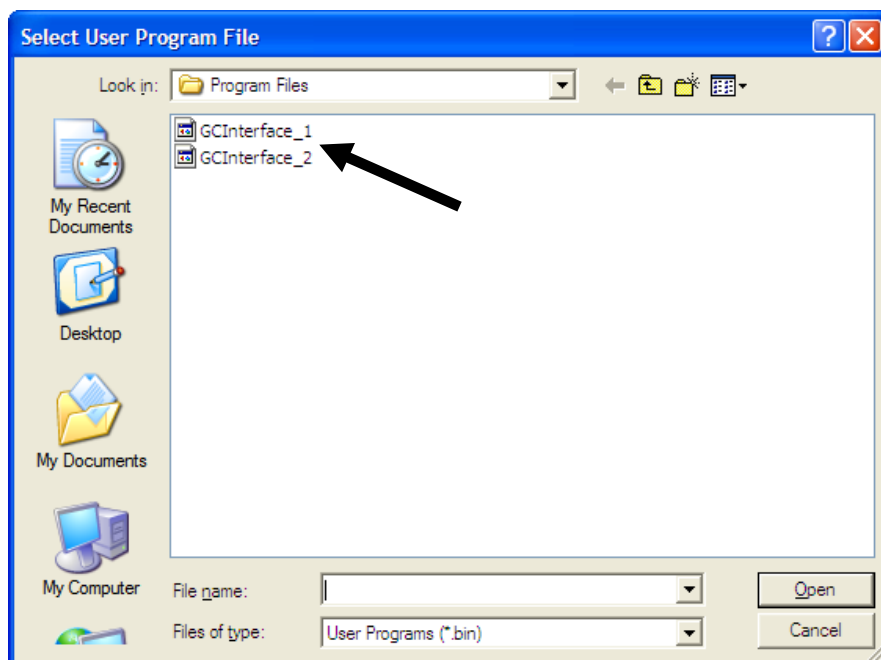

Figure 2-4. Select User Program File
4. Click **Browse** in the Download User Program File frame. The Select User Program File screen displays (see *Figure 2-4*).
folder on the CD-ROM). As *Figure 2-4* shows, the screen lists all valid user program files with the .BIN extension: